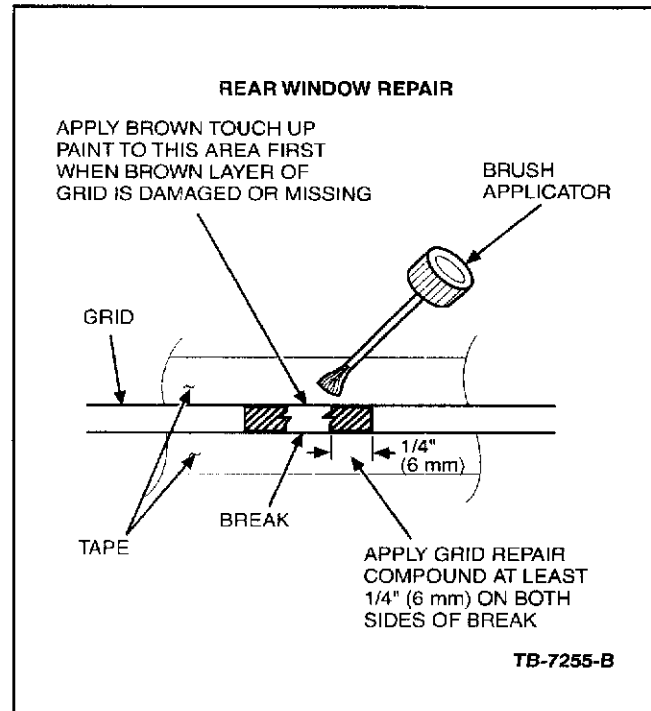

Figure 1 - Article 04-24-5
2. Using "fine line tape", mask off the area directly above and below open grid line (Figure 1). It is best to extend the tape 26 mm (1") beyond the concern area in both directions. The open should be at the center of the mask and tape gap must be no wider than the existing grid line. Other types of tape may be used but end results of the repair may not appear as visually acceptable due to ease of application and tape edge finish.